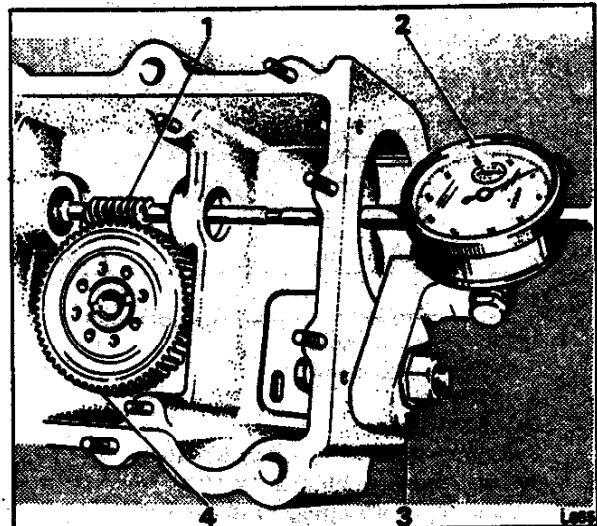

Fig. T22 Checking wormshaft end-float
6. Adjust the end-float of the wormshaft to between 0,005 mm. and 0,012 mm. (0.002 in. and 0.005 in.) using a suitable washer. Fit the circlip. Check the end-float onto the end of the shaft using a dial gauge (see Fig. T22).